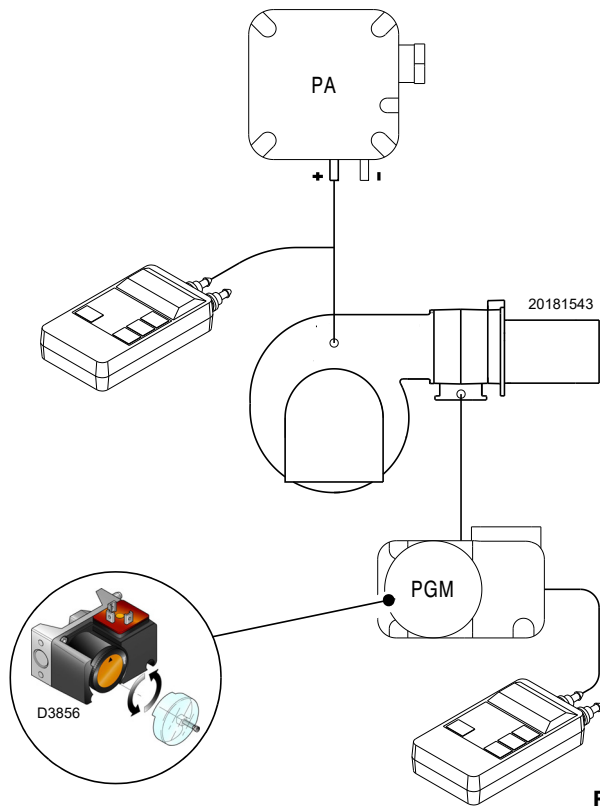

Fig. 49
- Adjust the max gas pressure switch (Fig. 49 at page 44) to the upper limit of the scale.
Adjust the maximum gas pressure switch (Fig. 49) after making all other burner adjustments with the maximum gas pressure switch set to the end of the scale.